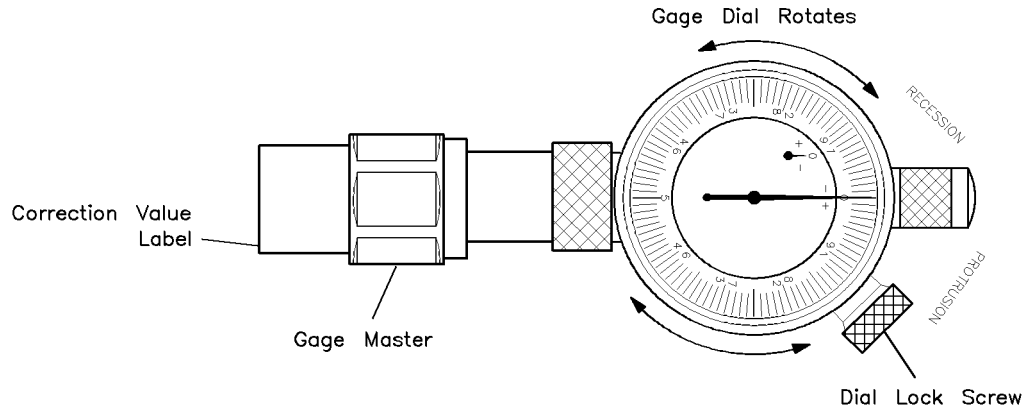

Figure 4-3. Adjusting the Connector Gage
3. Adjust the gage (see Figure 4-3):
- c. Loosen the dial lock screw on the gage and rotate the gage dial so that the pointer corresponds to the correction value noted on the gage master (see Figure 4-3). Do not adjust the gage dial to zero, unless the correction value on the gage master is zero.